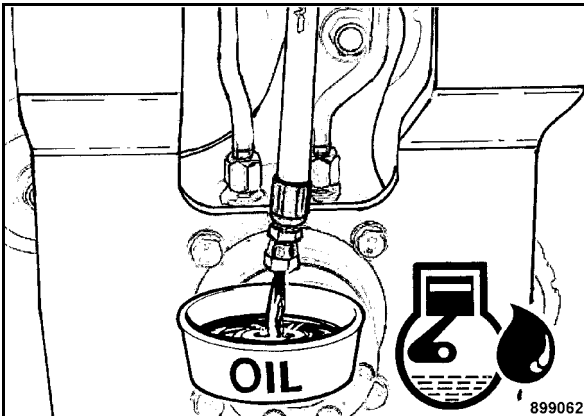

Fig. 76
- Unscrew oil drain plug (Fig. 76) from the drain hose and catch the old oil.